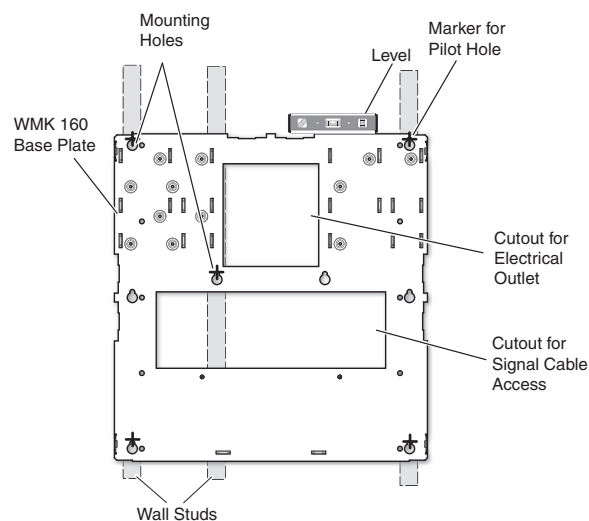

Figure 3. Non-masonry wall mounting
- For ideal installation secure the base plate to at least one wall stud (see figure 3 at right). Drywall KapToggles can be used for holes not aligned with studs.
- Hold and level the base plate against the wall and mark the positions of the slotted mounting holes that are on the stud lines (see figure 3 indicated by + marks). Where applicable, mark the mounting holes on the wall for drywall toggles.
- iii. If the cables are to be run behind the wall to the WMK 160 location, mark the cutout area on the wall for the signal cable access hole (see figure 3 on the previous page). Remove the base plate and set the plate aside.